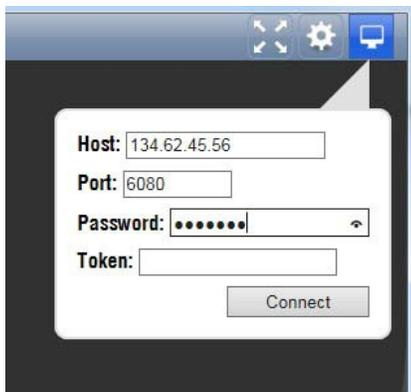

Figure 24: Settings dialog box with the password entered
5. In the Control bar, click the **Connect** icon (🖥️) to open the Connect dialog. (See Figure 24) Figure 22.